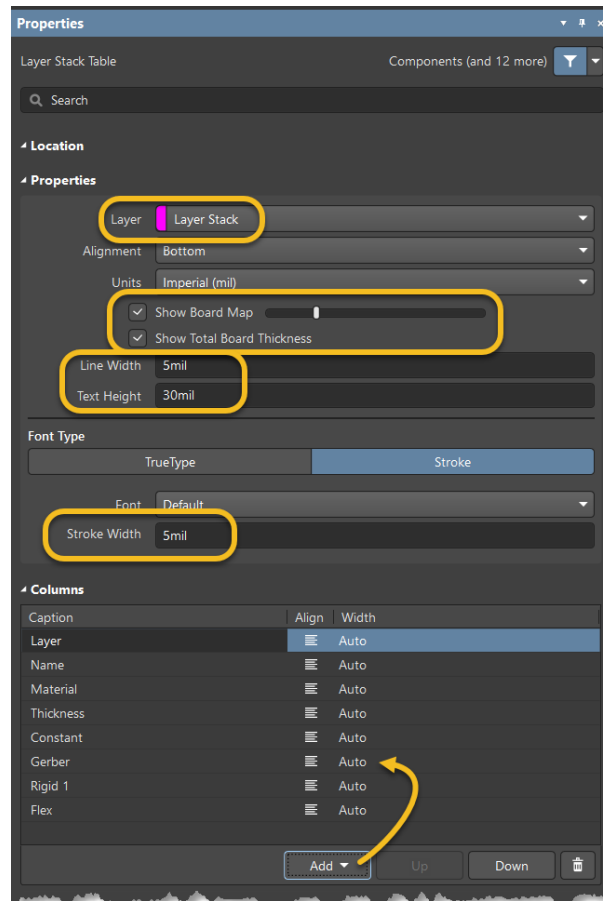

Figure 8. Modifying the Layer Stack Table
25. Next, place the Layer Stack Table. See Figure 8 as a reference.
- b) Press the **Tab** key to modify the Table parameters in the *Properties* panel, as shown in Figure 8.